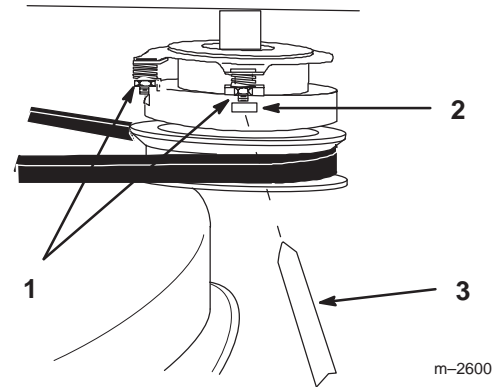

Figure 36
1. To adjust clutch, tighten or loosen lock nuts on flange studs (Fig. 36).
2. Check adjustment by inserting feeler gauge thru slots next to studs (Fig. 36).